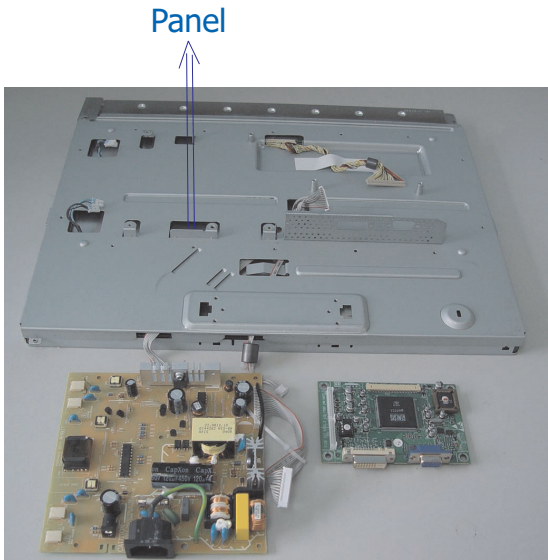

Fig.14
- Remove the scaler and power board as shown in Fig.14